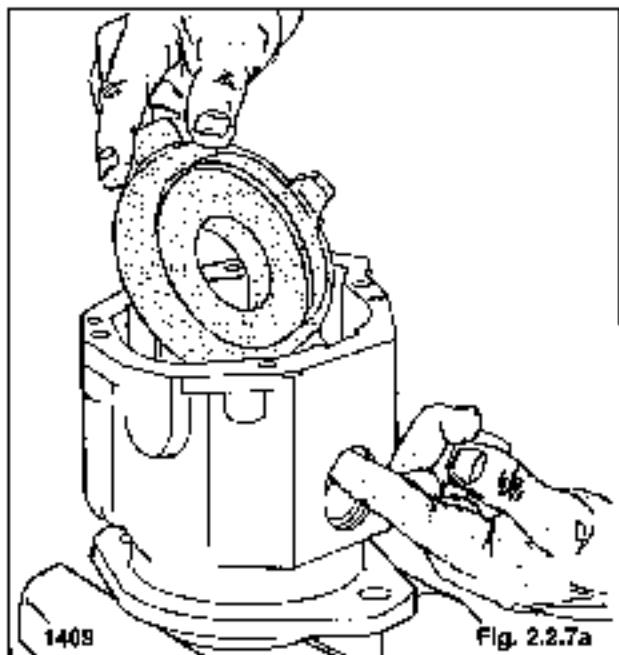

Fig. 2.2.7a
1. Install a new O-ring on the complete shaft and install the complete in the pump housing (fig. 2.2.7a).
1. Install a new O-ring on the camplate shaft and install the camplate in the pump housing (fig. 2.2.7a).